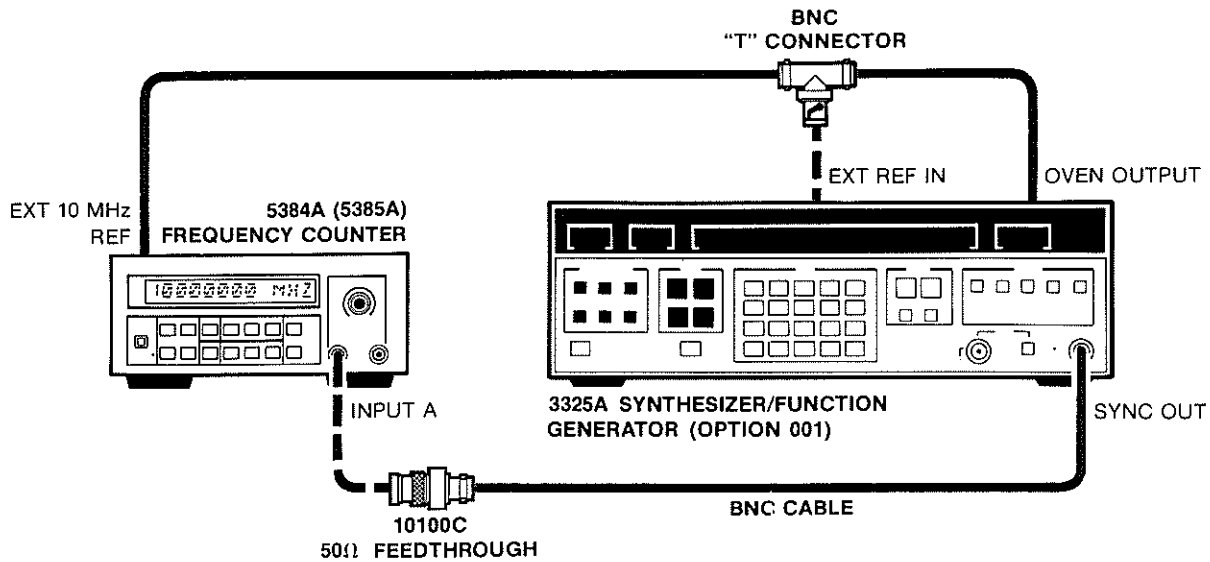

Figure 4-1. Channel A Frequency Response and Sensitivity Test Setup (5384A/5385A)
- a. Connect the 3325A synthesizer/function generator to the 5384A/5385A A channel input as shown in Figure 4-1.
- a. Use the same set-up shown in Figure 4-1.